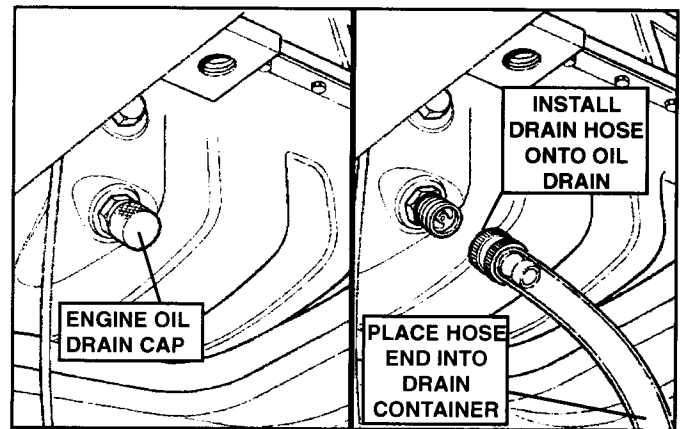

FIGURE 4.62
4. Remove Cap from Engine Oil Drain by hand. See Figure 4.62. Place a 10 liter (2.6 Gal) capacity container under oil pan.
5. Install Drain Hose onto oil drain with other end of hose into container. See Figure 4.62. After all oil has drained, remove Drain Hose and replace Oil Drain Cap.